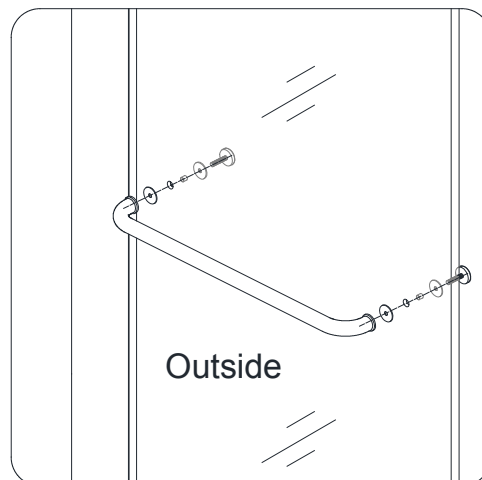

Fig 12
10. Attach the **Towel Bar (#18)** to the outside of the **Stationary Glass (#05)**. (Fig 12)